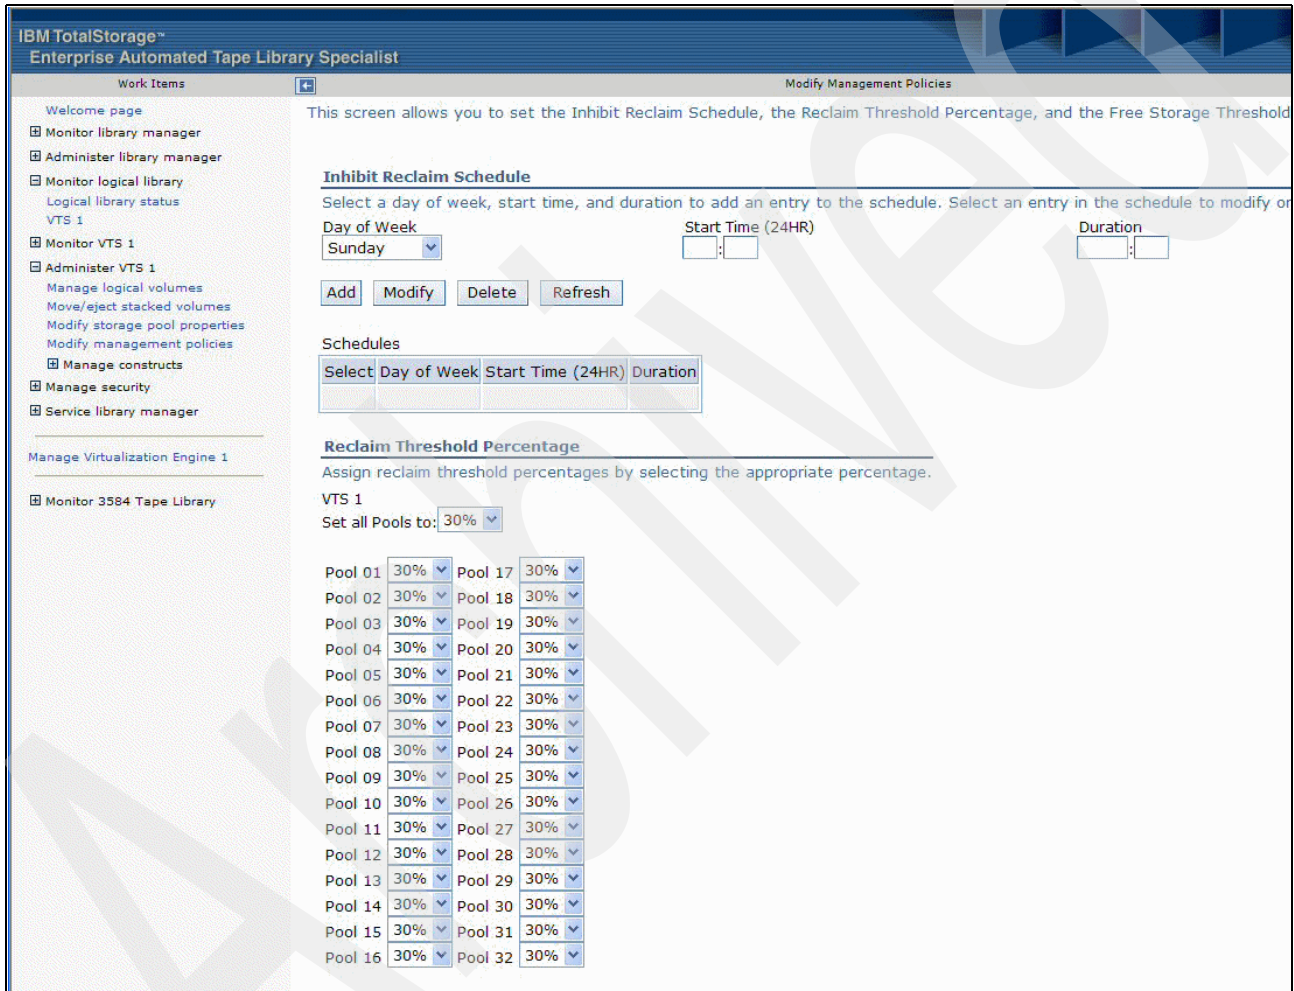
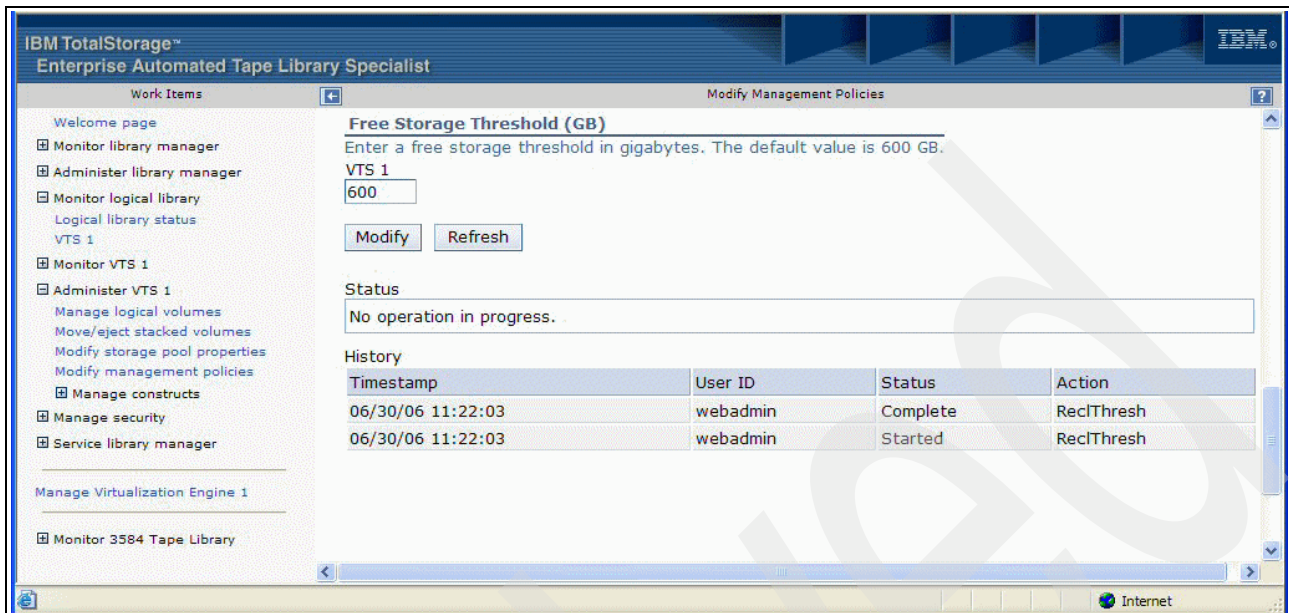

Figure 4-17 Modify management policies for the TS7700 using the ETL Specialist, Part 1
Figure 4-18 Modify management policies for the TS7700 using the ETL Specialist, Part 2
- ▶ Reclaim Threshold Percentage and Inhibit Reclaim Schedule (see Figure 4-17 on page 160) and Free Storage Threshold (see Figure 4-18 on page 162), which are defined in the Modify Management Policy panel.
To define the Inhibit Reclaim Schedule, select **Modify management policies** from the Administer VTSx work items at the ETL Specialist. See Figure 4-17.
The Reclaim Threshold Percentage (Figure 4-17) is used to identify when a cartridge is to be made available for reclamation. Each stacked volume has some amount of active data and some amount of invalidated data which has been deleted from the active volume list. If the percentage of active data in stacked volume is less than the percentage specified in this panel, the stacked volume is available to reclaim. During the reclamation process all of the active data from the original stacked volume is moved to another stacked volume. After all active data is moved from the original stacked volume, its category is set to scratch. This makes it available for reuse immediately.
Figure 4-18 shows the ETL Specialist panel to define the threshold.